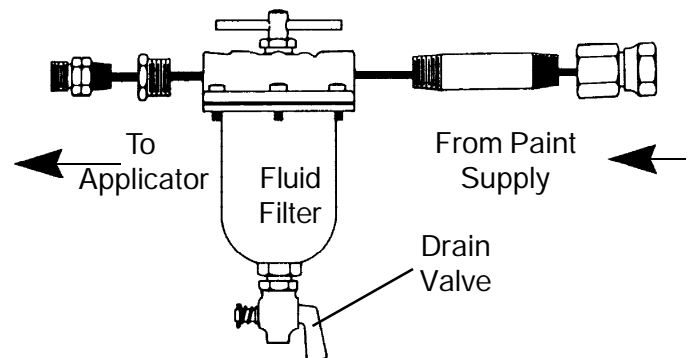

Figure 11: Typical Fluid Filter Installation
1. Install a fluid filter on the output of fluid supply, as shown in Figure 11 below.